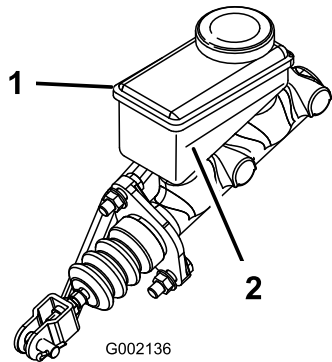

Figure 37
3. Look at the side of the reservoir, and ensure that the fluid level is above the Minimum line (Figure 37).